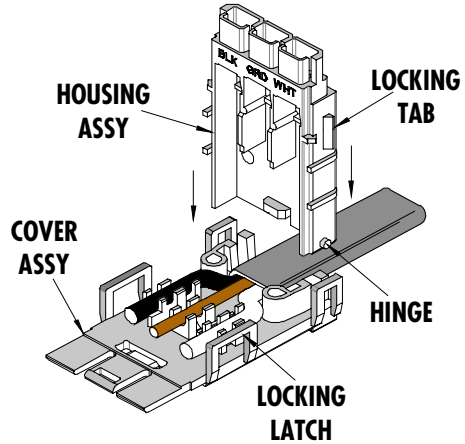

Figure 3
- Position the hinge pins on the housing assembly into the mating holes in the cover as shown in Figure 3 and push down.